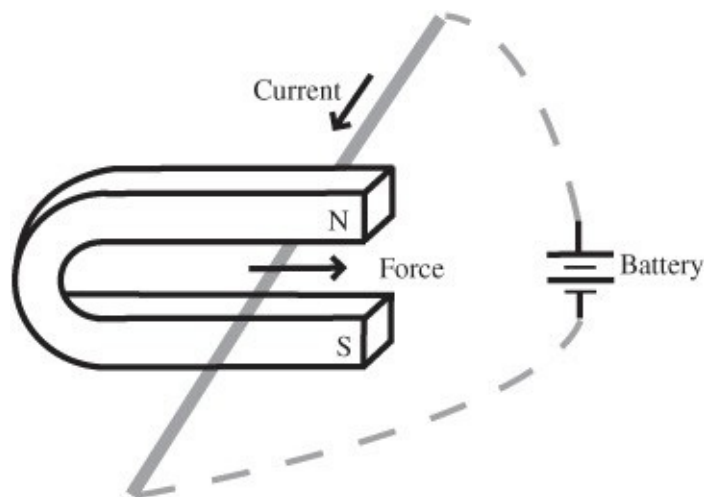

Figure 112-1 *Force between two current-carrying wires.*
3. Attach one end of the wire to the negative terminal of the power supply, as shown in Figure 112-1.